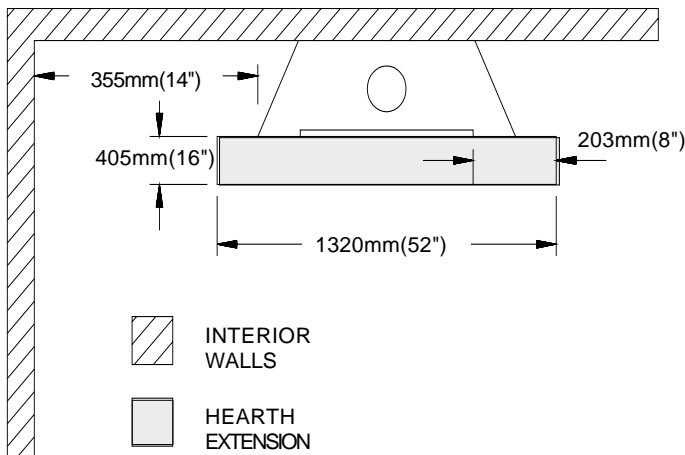

FIGURE 2
5. The minimum installed distance from the fireplace opening to an adjacent wall is 356mm (14"). See Figure 2.
1. Select fireplace location taking into consideration such things as size of room, traffic patterns, location of doors and windows, chimney location, to minimize any offsets, and required clearance to side walls. See Figure 2.
2. Once the fireplace and chimney installation locations have been chosen, remove any combustible materials such as carpeting or vinyl floors from where the fireplace will be positioned. An area for the hearth extension must also be removed 205mm (8") on both sides of the fireplace opening and 405mm (16") in front of the fireplace. See figure 2.